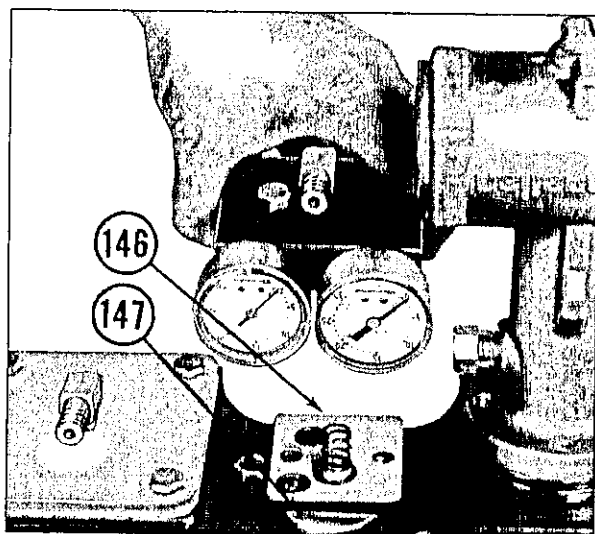

Figure 23 - Positioner assembly
3. Loosen locknut (117) and take-up screw (116) and unhook spring clamp (115) from lever (22).
4. Unscrew cap screws (141b) from positioner block (147) and remove positioner block from actuator bracket. Remove screws (148) to separate the positioner diaphragm assembly (152) and spring (154) from positioner block. Examine all parts for wear and replace if necessary.
5. Assemble positioner diaphragm assembly (152) with spring (154) to the block and tighten screws (148). Be sure that the small signal port O-ring is in its recess in the diaphragm assembly.
Note: Orient the block (147) such that when the manifold block (144) is bolted on, the gauges will face in the right direction (Figure 23).
7. Install O-ring (153), shims (145), pilot valve assembly (155, 156, 157), gasket (146) (incl. three O-rings), spring (158) and manifold block (144). Tighten cap screws (141a), replace tubing (140) and tighten pressure connections nuts (138a).